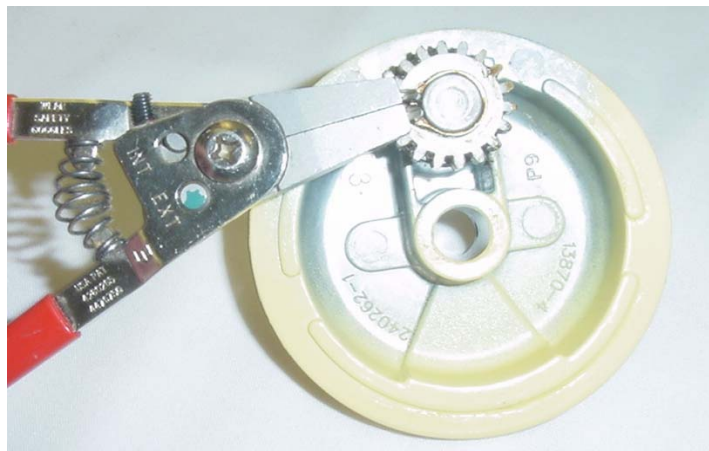

Fig. 64 Hold the agitator shaft and remove the retaining clip.
The bearing is an integral part of the planetary. Hold the agitator shaft firmly and remove the pinion retaining clip (Fig. 64).
S. The agitator shaft is complete as an assembly. Lubricate the shaft and push it up into the bearing as far as it will go. Place the washer(s) on the shaft. Insert the pin through the shaft. Set the pinion gear on the shaft so that the notches in the pinion align with the pin in the shaft. Install the retaining clip in the groove on the shaft (Fig. 64).